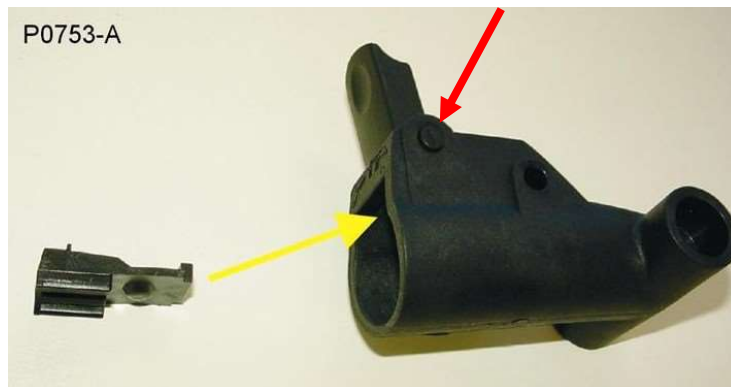

Figure 69: Inserting Pressure Block Lower into Camlock Lower.
- Position the cam lever then push the pin lower camlock into the camlock body. Open the lower cam lever. Place the lower pressure block into the lower camlock body. Refer to Figure 69.